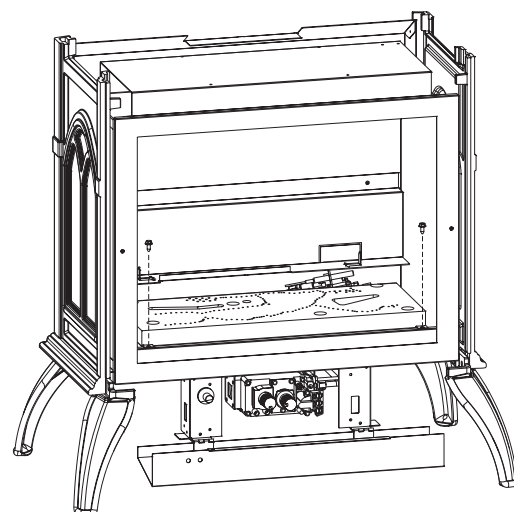
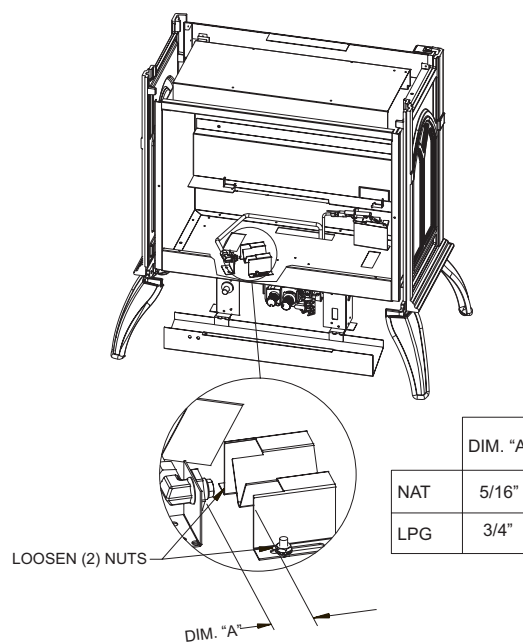

Figure 7
Figure 8
6. Remove the burner by removing the two (2) screws at the front of the burner as shown in Figure 7.
8. Loosen the two (2) nuts on the air shutter shown in Figure 8 to adjust the air shutter. Figure 8 call-out demonstrates the proper locations for Natural Gas. LP utilizes a fixed air shutter.
9. Tighten the two (2) nuts back down locking the air shutter in place. Be sure that the air shutter is the same distance from the burner orifice on both sides of the air shutter for proper burner fit up.
11. Replace the two (2) screws at the front of the burner shown in Figure 7.
12. Replace the log shelf by replacing the two (2) screws removed in Step 4 securing the log shelf to the rear wall.
14. Replace the screen door by replacing the two (2) screws removed in Step 3.